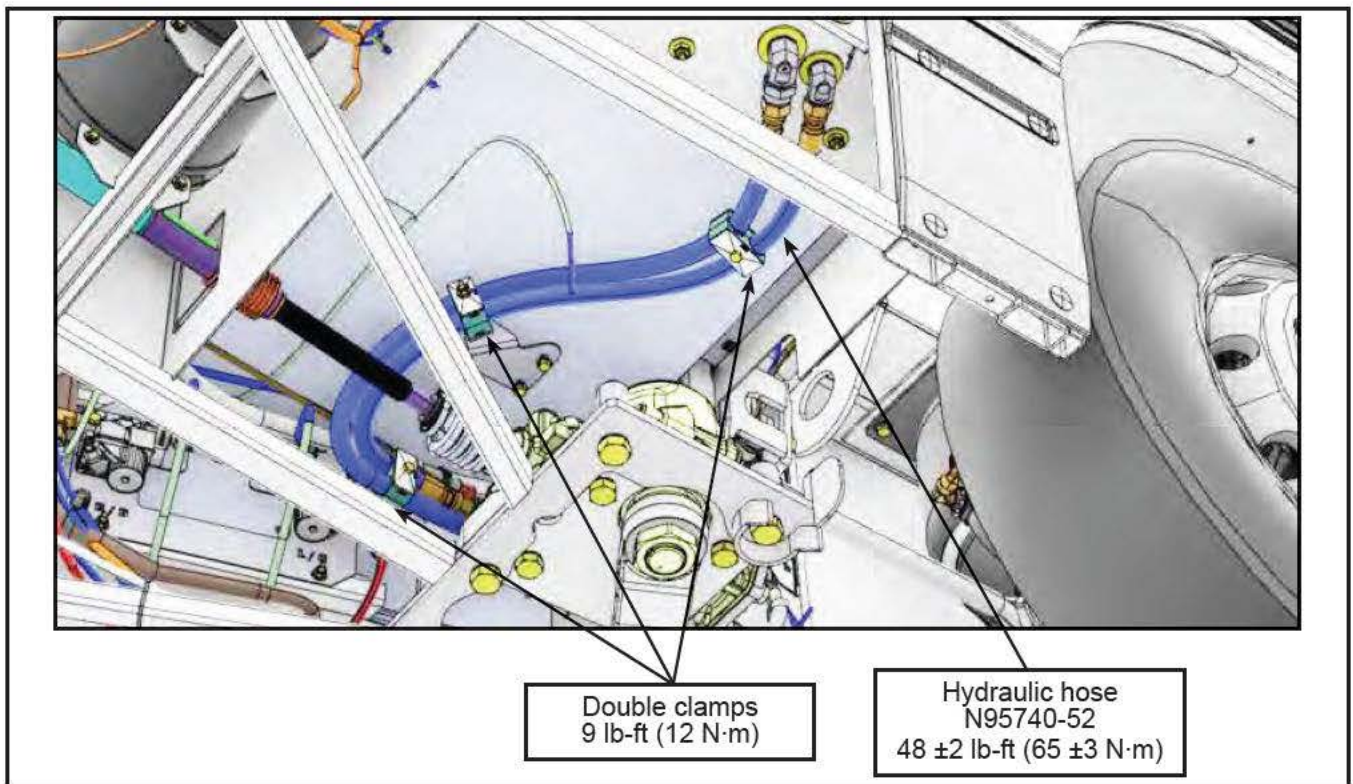

Figure 9 - Replace Hydraulic Hose N95740-52
- 1.22. Locate the hydraulic hose N95740-52, it is the shorter of the 2 hydraulic hose (Figure 9).